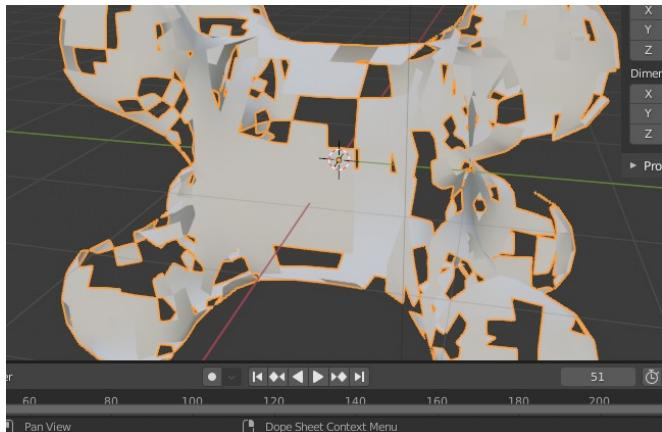

Figure 2-8 Build modifier showing the Timeline play button
12. Delete the Remesh modifier, then select **Add Modifier** ▶ **Generate** ▶ **Build**. Build is an animation modifier, so the object will disappear after you add it! Use the buttons in the Timeline Editor at the bottom of the window (Figure 2-8) to play the animation, which will create the object one face at a time.